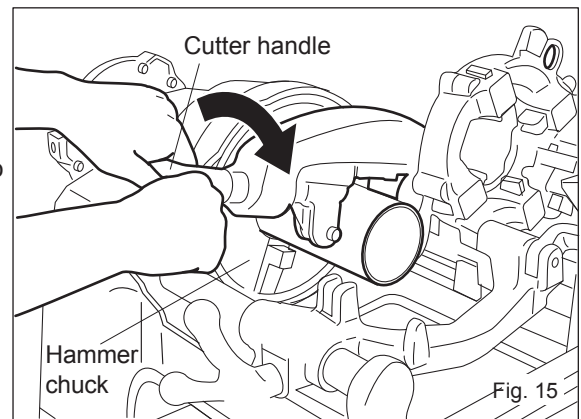

Fig. 15
- Switch the machine on and turn the cutter handle up to 1/2 a turn for each rotation of the pipe. (Fig. 15)